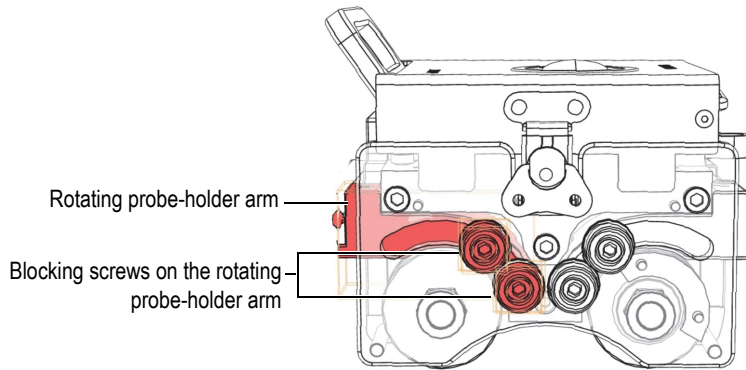

Figure 3-1 WeldROVER—Rotating probe-holder arm
2. Loosen the blocking screws on the rotating probe-holder arms (see Figure 3-1 on page 50).